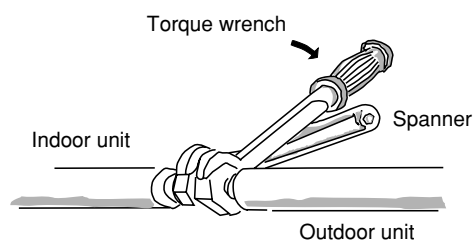

Fig. 5-6
- (1) Tightly connect the indoor-side refrigerant tubing extended from the wall with the outdoor-side tubing.
- (2) To fasten the flare nuts, apply specified torque as at right:
- When removing the flare nuts from the tubing connections, or when tightening them after connecting the tubing, be sure to use 2 monkey wrenches or spanners as shown. (Fig. 5-6)